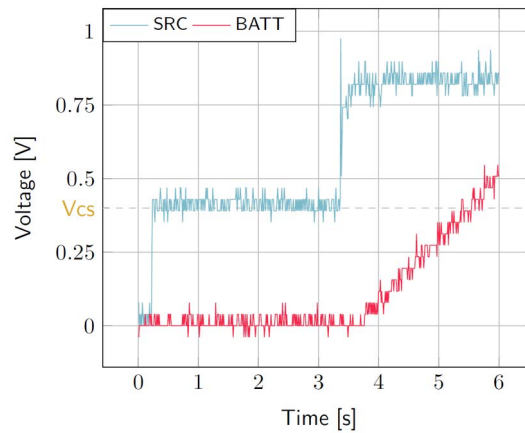

Figure 7: AEM30940 behavior during cold start
- SRC: equal to the cold-start voltage during the cold-start phase. Regulated at the selected MPPT percentage of V_{OC} when cold start is over (see Figure 7). Be careful that the cold-start phase time will shorten with the input power. Limit it to ease the observation.
- BATT: starts to charge when the cold-start phase is over (see Figure 7).